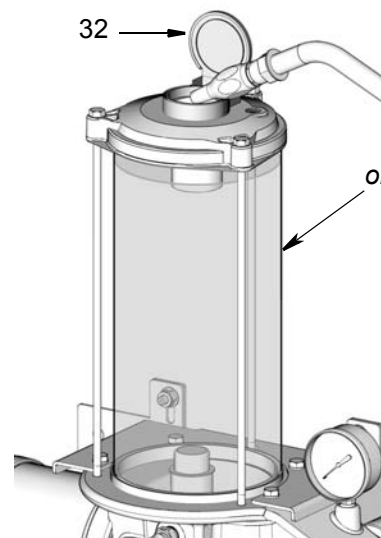

FIG. 7
2. Slowly add oil (o) until reservoir is filled to capacity (FIG. 7). Take care to not fill reservoir too quickly and overflow the reservoir capacity.
3. Close oil fill cap (32) to prevent contamination and spillage (FIG. 7).